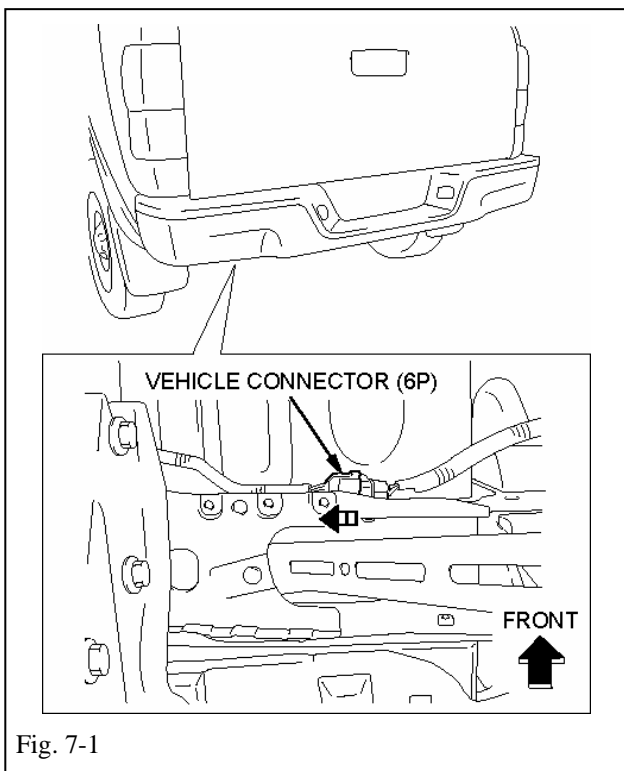

Fig. 7-1
- (a) Disconnect the vehicle wire harness connector (6P). (Fig. 7-1)